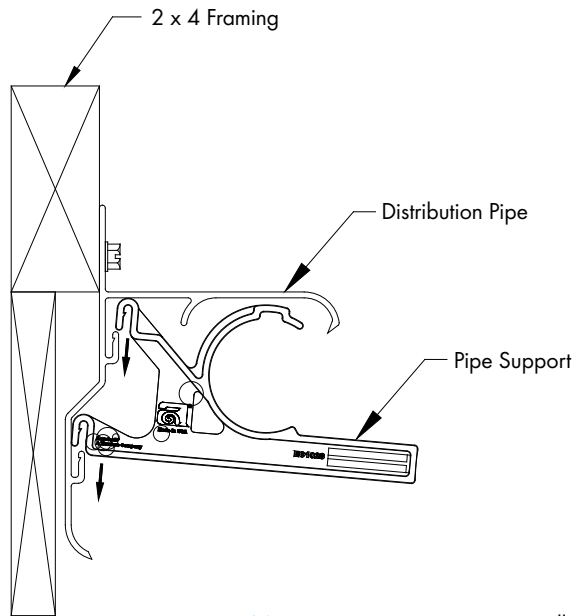

Figure 14A
Pipe Supports snaps onto Distribution Cap, starting 12" from end, spaced every 24". See Figure 14A. Five (5) pipe support brackets per 10' section of Distribution Cap. Pipe supports can be slid back and forth for proper alignment.